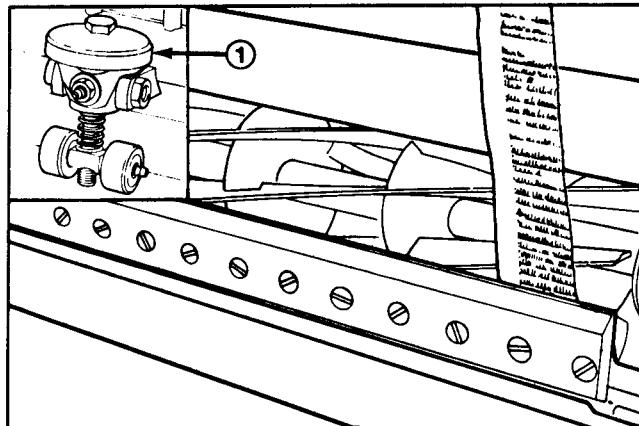

Figure 8
2. On right-hand end of reel, insert a long strip of newspaper between front side of reel and bedknife. While slowly rotating reel forward, turn bedknife adjusting knob (Fig. 8) clockwise, one click at a time, until paper is pinched lightly, which results in a slight drag when paper is pulled.